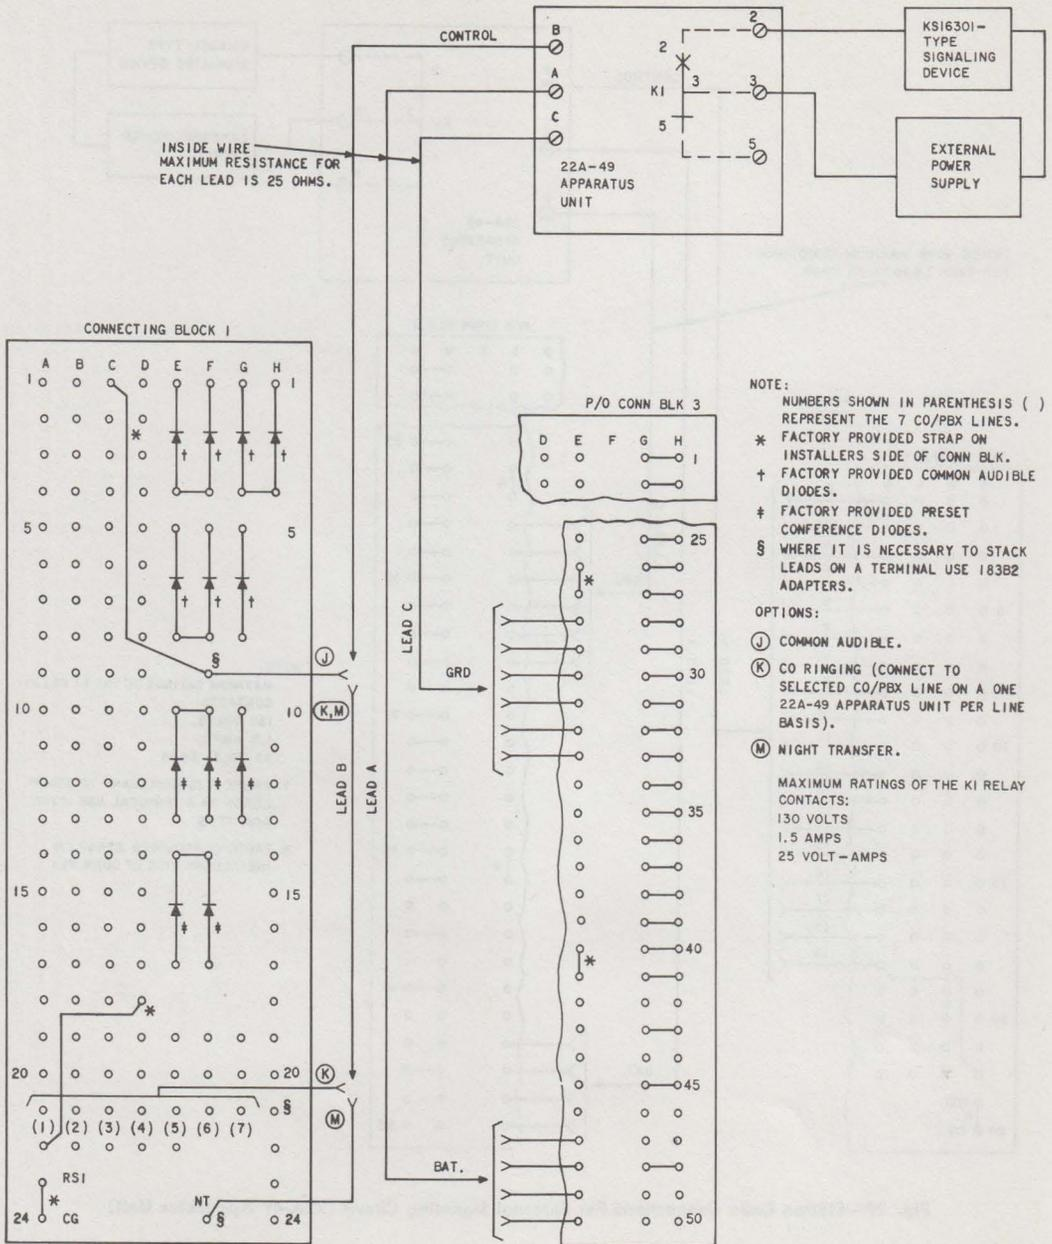

Fig. 30—Common Audible, CO/PBX Ringing or Night Transfer Connections For External Signaling Circuit (22A-49 Apparatus Unit)
- Common audible (See Fig. 30)
- CO/PBX ringing (See Fig. 30)
- Night transfer (See Fig. 30).
Connections for station codes are shown in Fig. 29. Connections for common audible, CO ringing and night transfer are shown in Fig. 30. The maximum resistance of each lead between the KSU and the 22A-49 apparatus unit is 25 ohms.